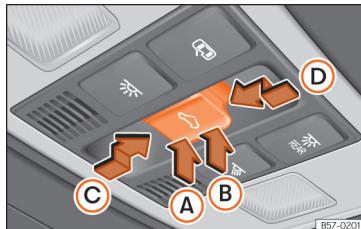

Fig. 128 On the interior roof lining: sunroof button.
The button **Fig. 128** has two levels. The first level switches the sunroof to the tilted position, opening or closing it fully or partially.
• *Sunroof*: within approximately 5 seconds of having activated the roll-back function, press the  button »» Fig. 128 to the second level in the direction of arrow »» Fig. 128 (D) until the sunroof closes completely.